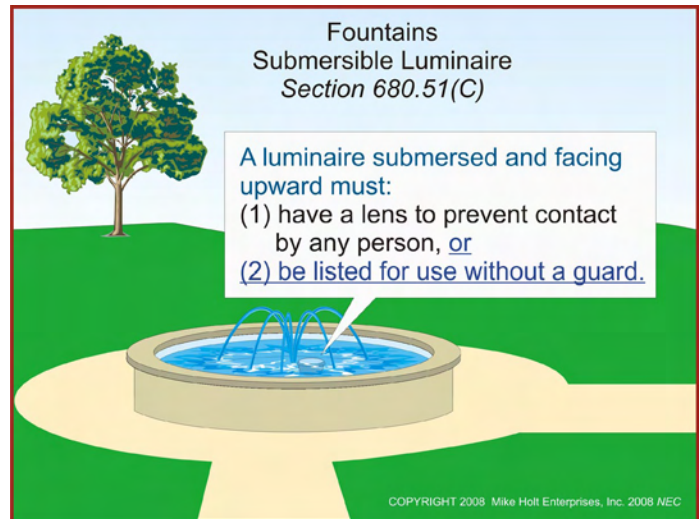

Figure 680-44
(C) Luminaire Lenses. Luminaires must be installed so the top of the luminaire lens is below the normal water level unless listed for above-water use. **Figure 680-44**